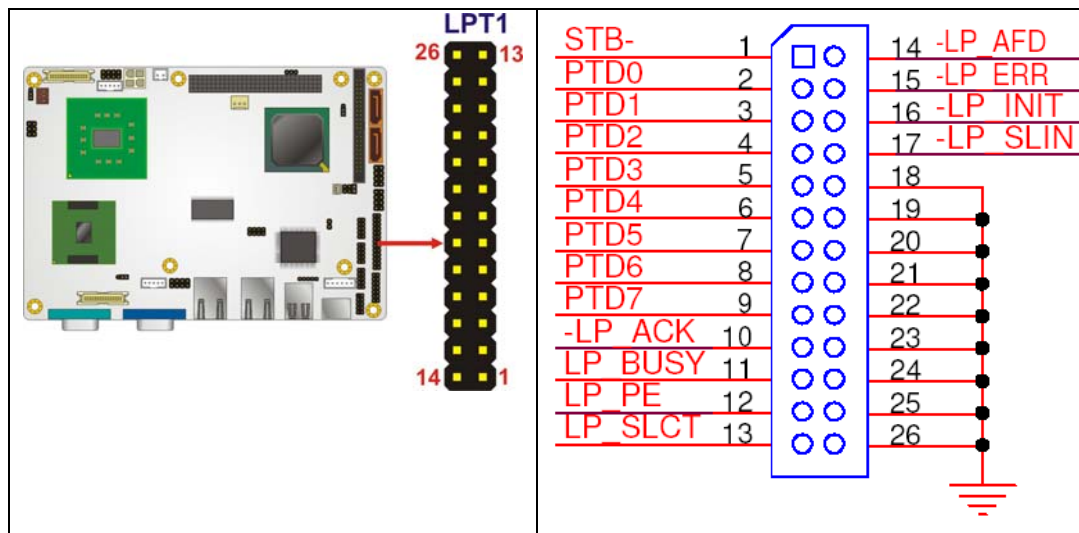

Figure 4-16: Parallel Port Connector Location
- CN Pinouts:** See **Table 4-15** and **Figure 4-16**
CN Location: See Figure 4-16